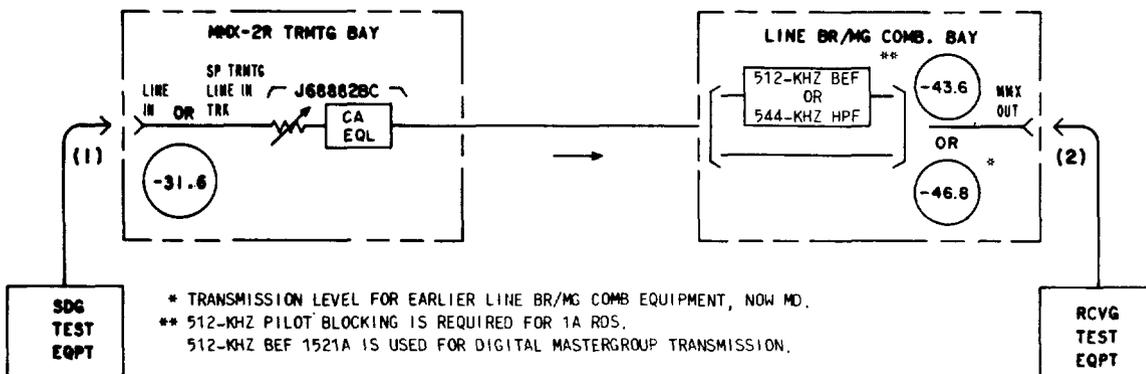

Fig. 5—Transmitting Regular or Spare Radio Trunk for Mastergroup Branching
4	Connect the STE to the LINE IN or the SP TRMTG LINE IN TRK jack in the MMX-2R transmitting bay [patch (1), Fig. 5].
5	Connect the RTE to the MMX OUT jack in the line branching/mastergroup combining bay [patch (2), Fig. 5].